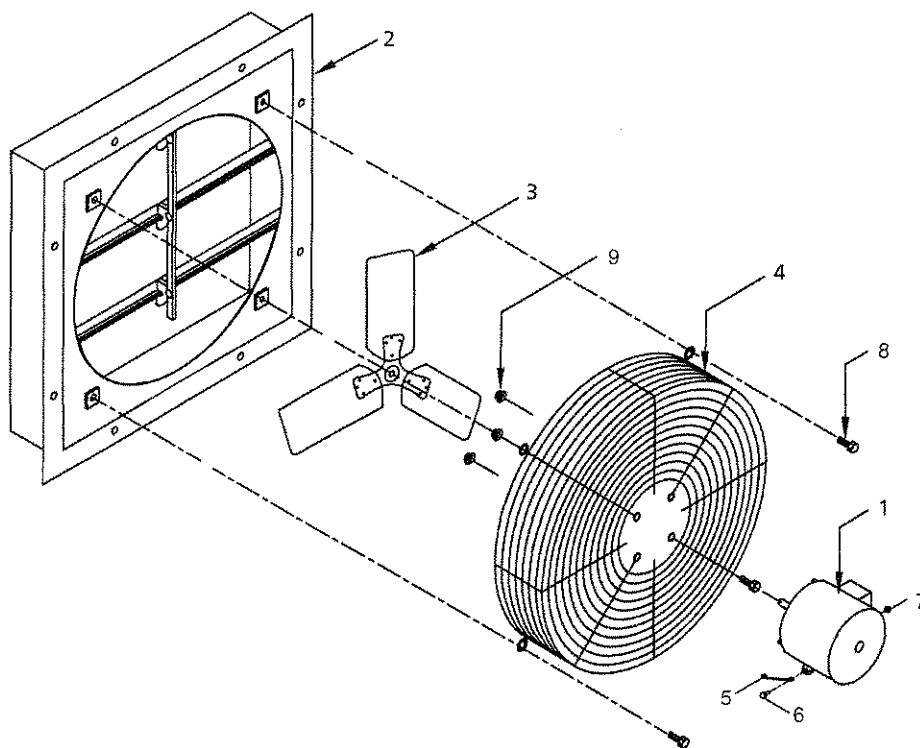

Figure 3 — Repair Parts Illustration
1. Refer to illustration of parts placement (Figure 3).
**⚠ CAUTION** *Do not repair damaged propeller. Replace with a properly balanced unit (see Figure 3 Reference No. 3).*